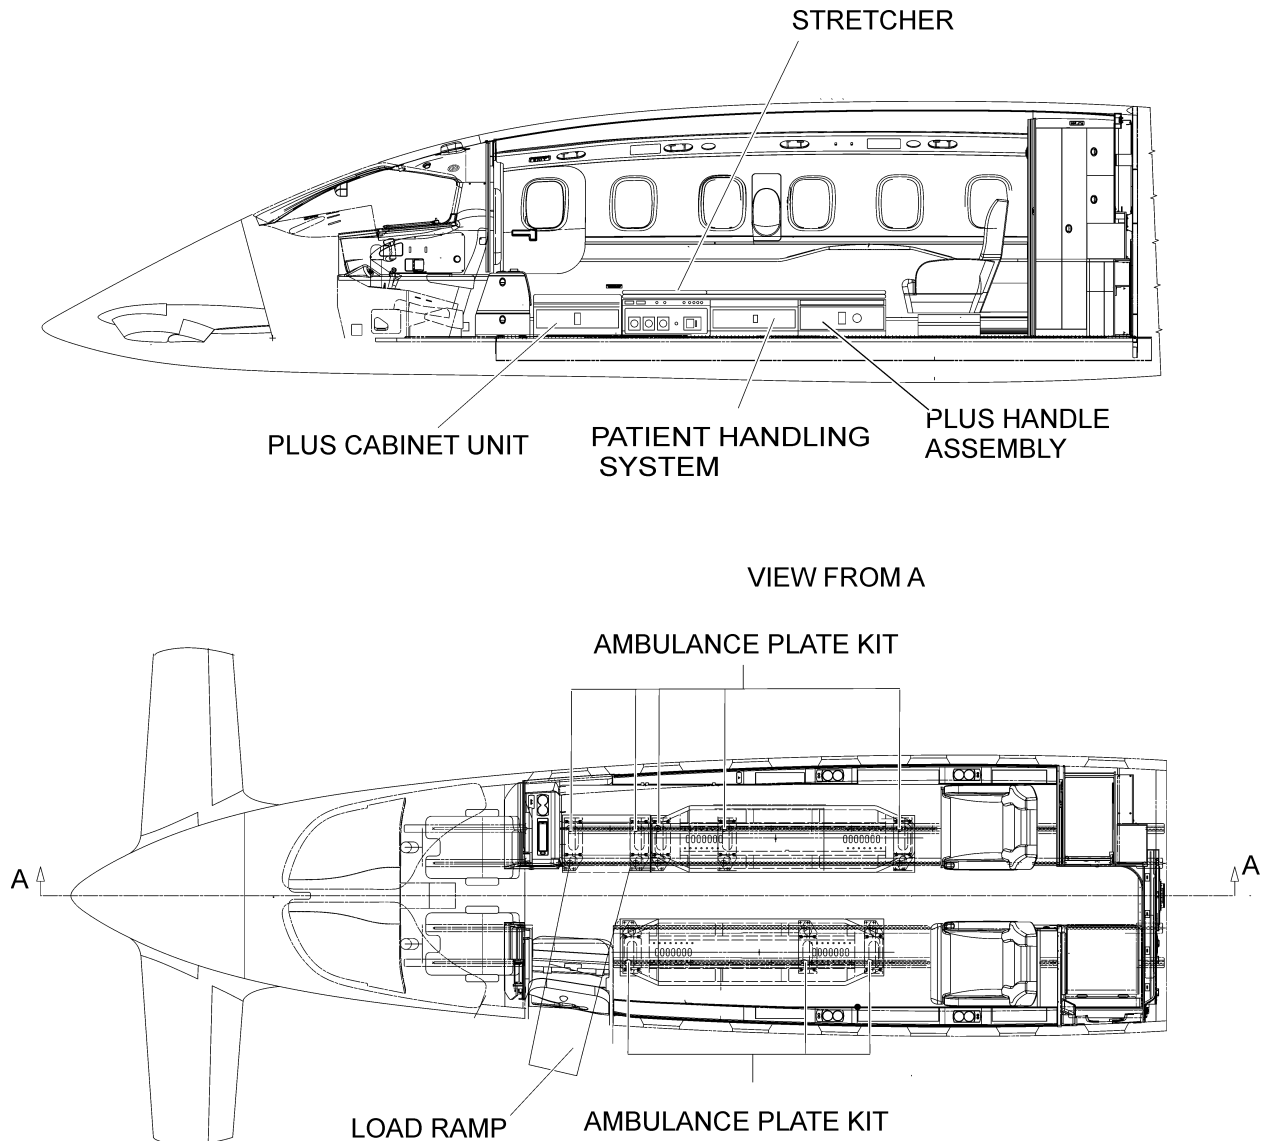

Fig. 18 - Corporate 2 A2 Configuration
- S. The Corporate 2 A2 passenger compartment (Ref. to Fig. 18).